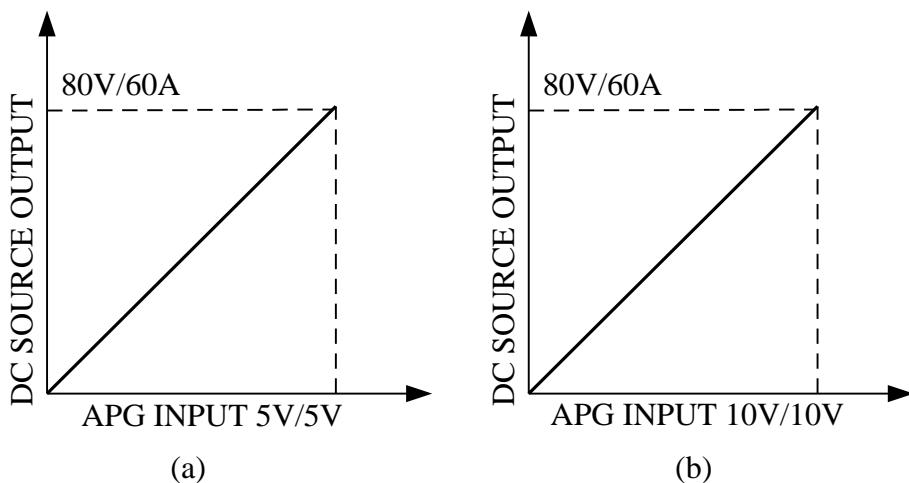

Figure 3-8
- a. When selecting $V_{ref}=5V \rightarrow$ it means the DC Power Supply's output $0V/0A \sim 80V/60A$ will map to $0 \sim 5V$ (programming or measurement) as Figure 3-8(a) shows.
- b. When selecting $V_{ref}=10V \rightarrow$ it means the DC Power Supply's output $0V/0A \sim 80V/60A$ will map to $0 \sim 10V$ (programming or measurement) as Figure 3-8(b) shows.